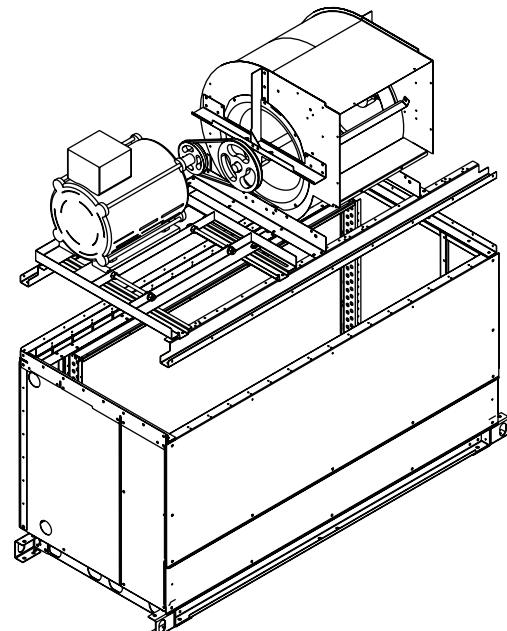

Fig. 77 — Remove Fan
3. Remove the fan by removing the 4 screws on the corner of the fan sled. On larger units the fan sled may be extremely heavy. Affix appropriate rigging to remove the required components, noting on a diagram where each component is attached. See Fig. 77.